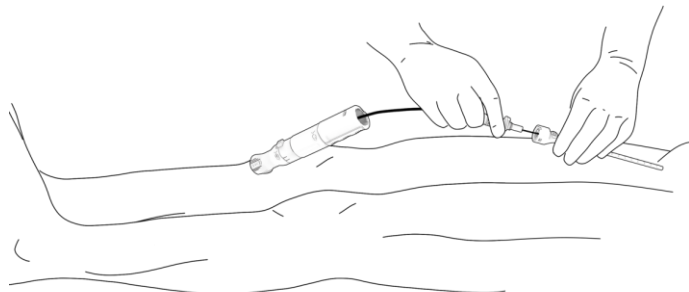

Figure 8. Advance the PerQseal+ closure device to the Introducer-sheath.
- Advance the Loading cannula over the guidewire towards the Introducer-sheath hub, Figure 8. If difficulty is experienced tracking over the guidewire, ensure the guidewire is not kinked and that it is free of coagulated blood and thrombus.